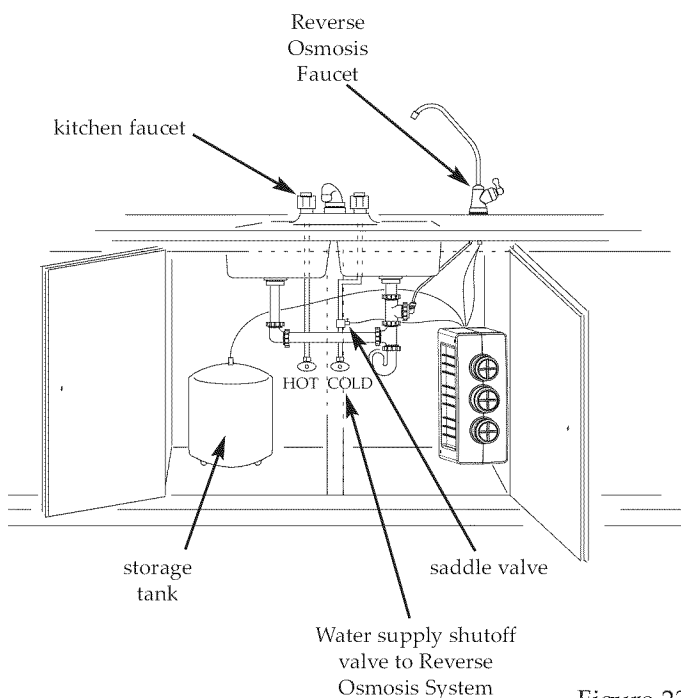

Figure 23
1. Turn the handle of the saddle valve counterclockwise to open the valve. See Fig. 23.
2. Open the water supply valve to the Reverse Osmosis System. See Figure 23.
3. Open the main water supply valve and several house faucets. This will purge air from the house plumbing and system. Close faucets when water runs smooth. See Figure 23.